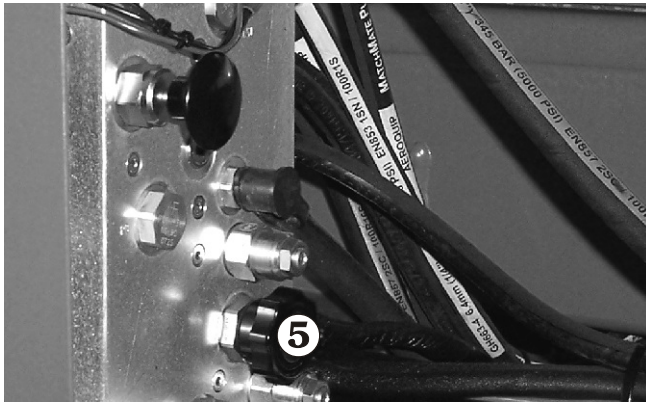

Figure 9.9
3. Inside the hydraulic compartment, open the free-wheeling valve 5 by turning counterclockwise until knob stops.(see Figure 9.9).
5. Once the unit has been safely pushed / towed pull the re-set knob 7 to re-apply the brakes (see Figure 9.11) and close the free-wheel valve 5 (see Figure 9.9).